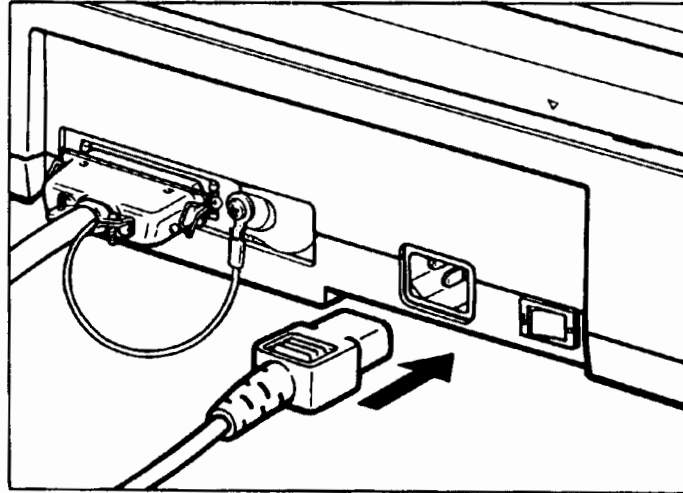

Figure 3-11. Connecting the Power Cord to the Scanner
1. Attach the power cord to the scanner. See figure 3-11.